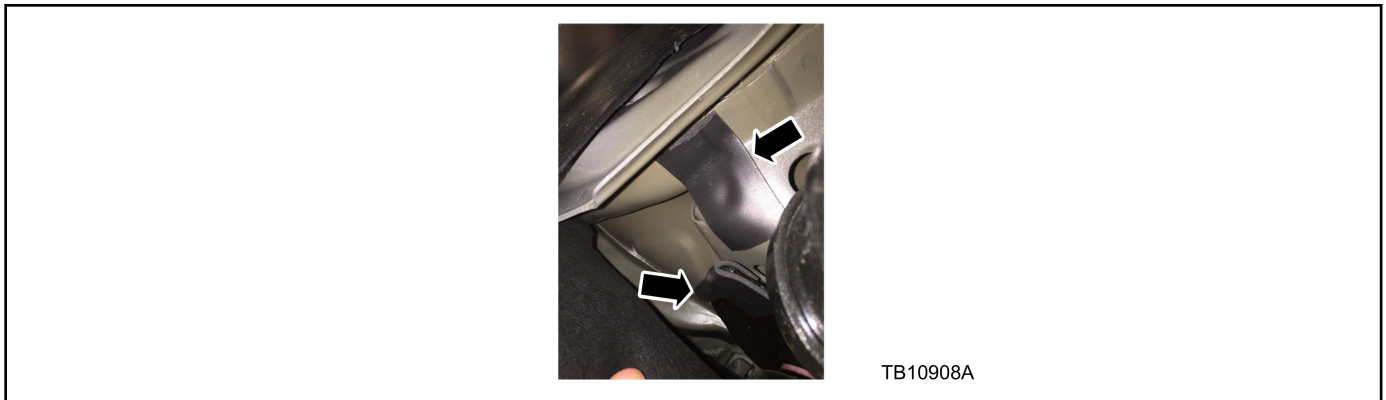

Figure 3 - Article 16-0083
- a. Cut the PVC tape in half and use both pieces to pad the shield to the body and subframe on both sides. (Figure 3)